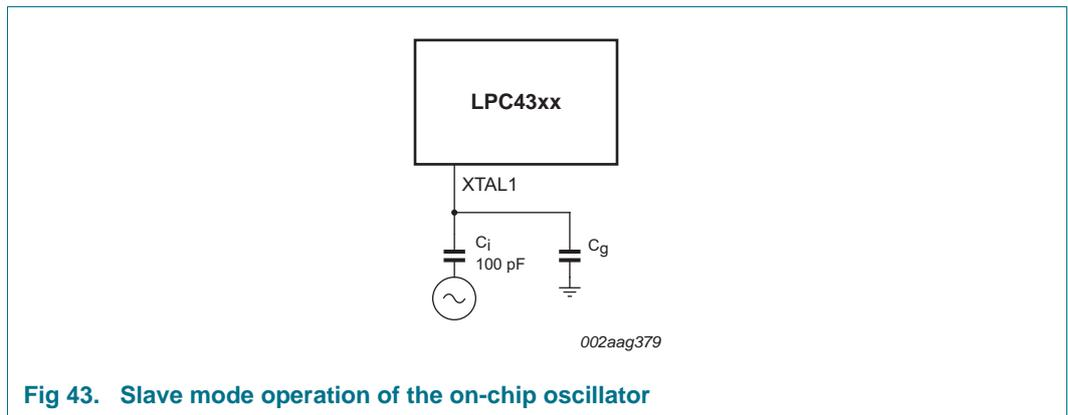

Fig 43. Slave mode operation of the on-chip oscillator
- In slave mode, couple the input clock signal with a capacitor of 100 pF (C_C in Figure 43), with an amplitude of at least 200 mV (RMS). The XTAL2 pin in this configuration can be left unconnected.
An external clock can be connected to RTCX1 if RTCX2 is left open. The recommended amplitude of the clock signal is $V_{i(RMS)} = 100$ mV to 200 mV with a coupling capacitance of 5 pF to 10 pF. $V_{i(RMS)}$ must be lower than 450 mV. See Figure 43 for a similar slave-mode set-up that uses the crystal oscillator.